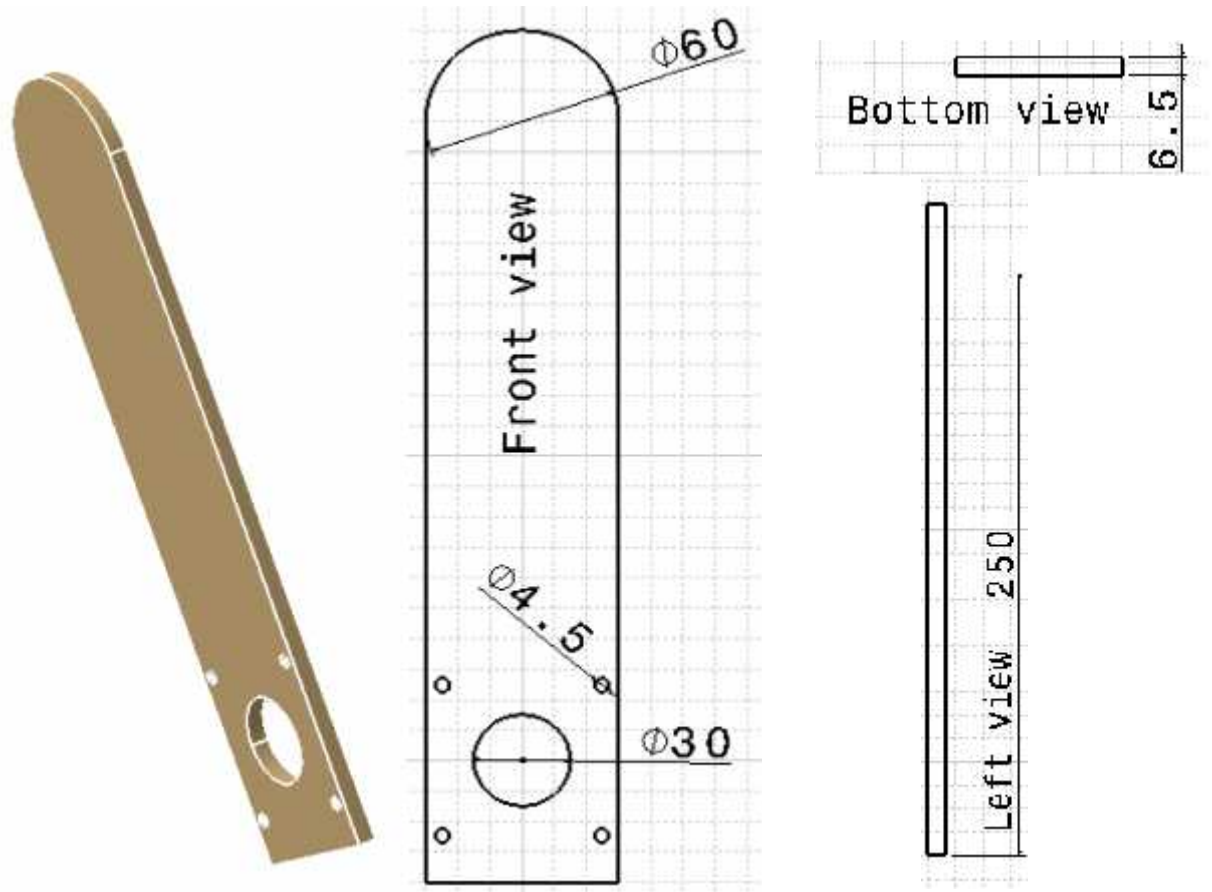

Figure 3.2 The link (all dimensions are in mm)
1. *The link*: it was designed and manufactured from rigid material (which is aluminum) in order to achieve the following: (see figure 3.2)